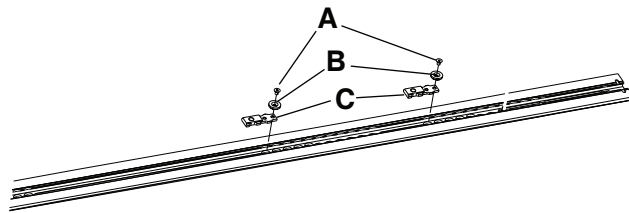

Figure 1 – Secure the floor plate attachment bracket
2. For the knob and bracket kit (6390-041-000), using a 5/32" hex wrench, install a flat head screw (0001-194-000) (A) to the sub anchor attachment bracket (6390-001-110) (B) to secure the floor plate attachment bracket (6390-101-108) (C) (Figure 1).